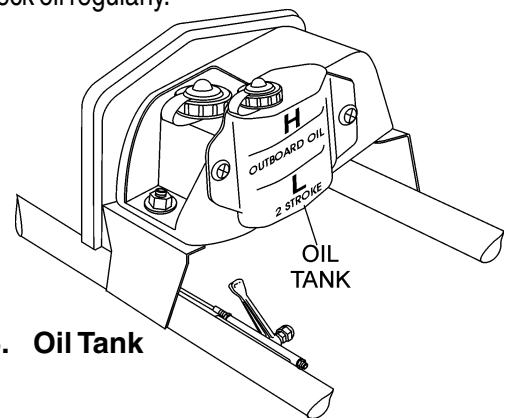

Figure 5. Oil Tank
2. Check the engine oil level at the sight gauge located on the operator's side of the **oil tank** (Figure 5). Fill the oil tank to the "H" level using only outboard (2-stroke) oil. Replenish the oil regularly before the oil level reaches the "L" level of the oil tank.